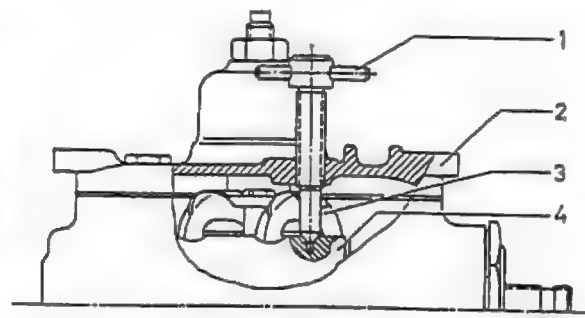

Fig. 46-1/2
7. Unscrew the screw plug (10) from the housing cover and fill up the steering assembly with the specified oil (for quantity and type of oil see Job No. 46-0).
8. Put the steering in center position and fix the position of the steering nut (4) by screwing Center Position Check Screw 111 589 00 23 (1) into the threaded bore for the screw plug in the steering housing cover (2) (Fig. 46-1/2).